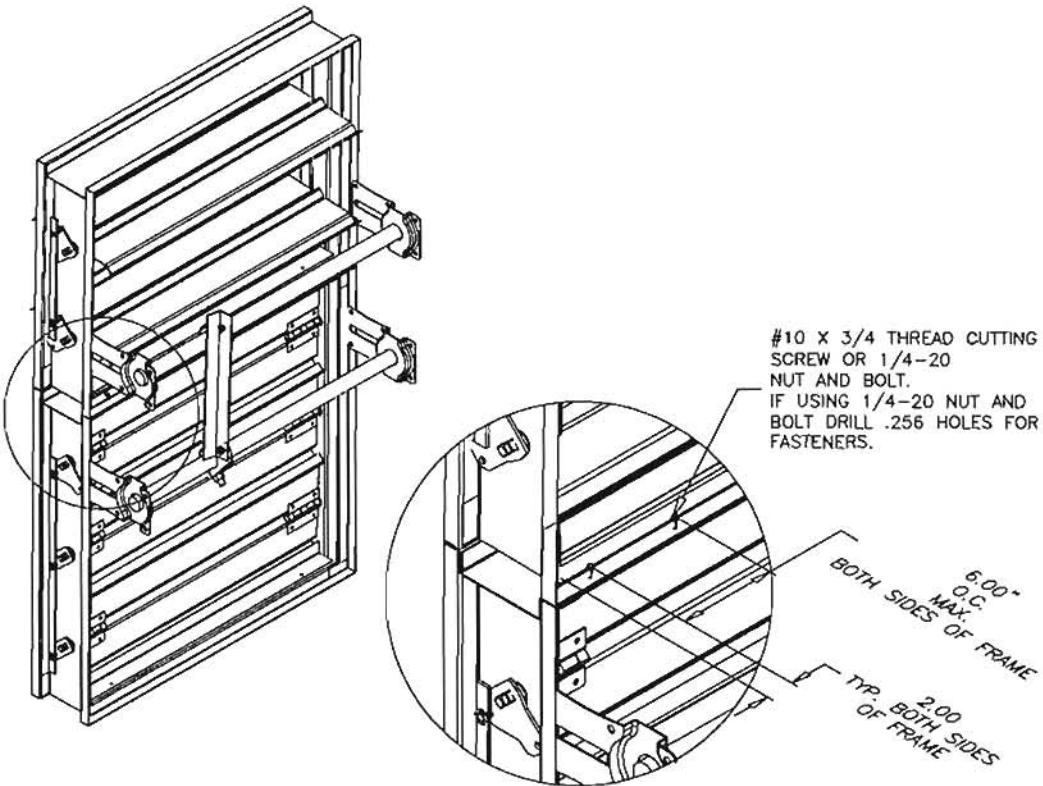

Figure 3
6. When the height of a Face & Bypass vertical style (FBV) is greater than 84 in. (2134mm), the damper sections are shipped separate and field assembly is required. Before fastening damper sections together, the non-actuated damper section will need to be flipped upside down so that the linkage is on the same side as the actuated damper. After damper sections are fastened together, attach interconnecting angle as shown in **Figure 3**. (Interconnecting angle is shipped with actuated damper section.)